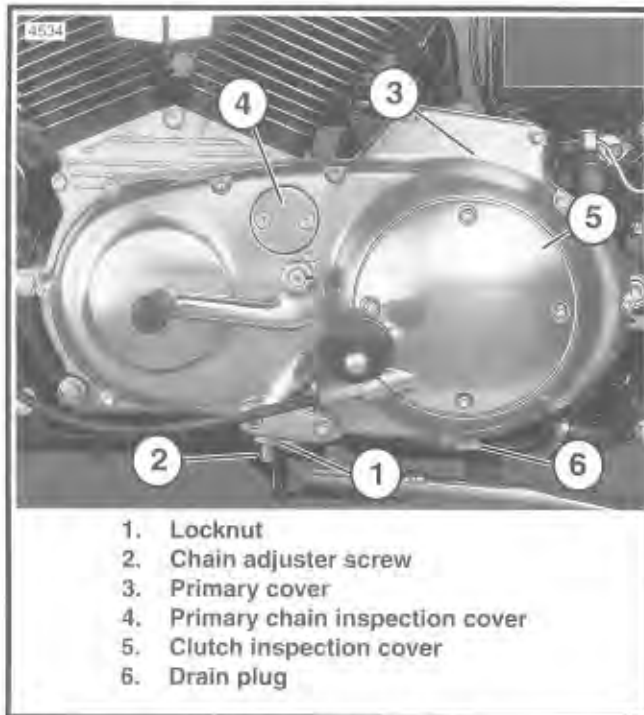
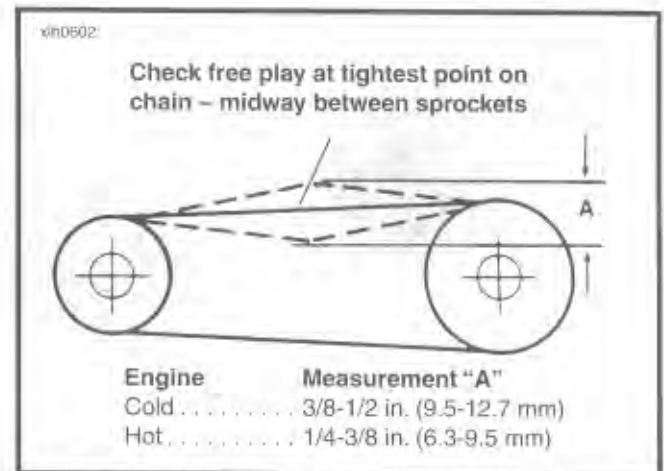
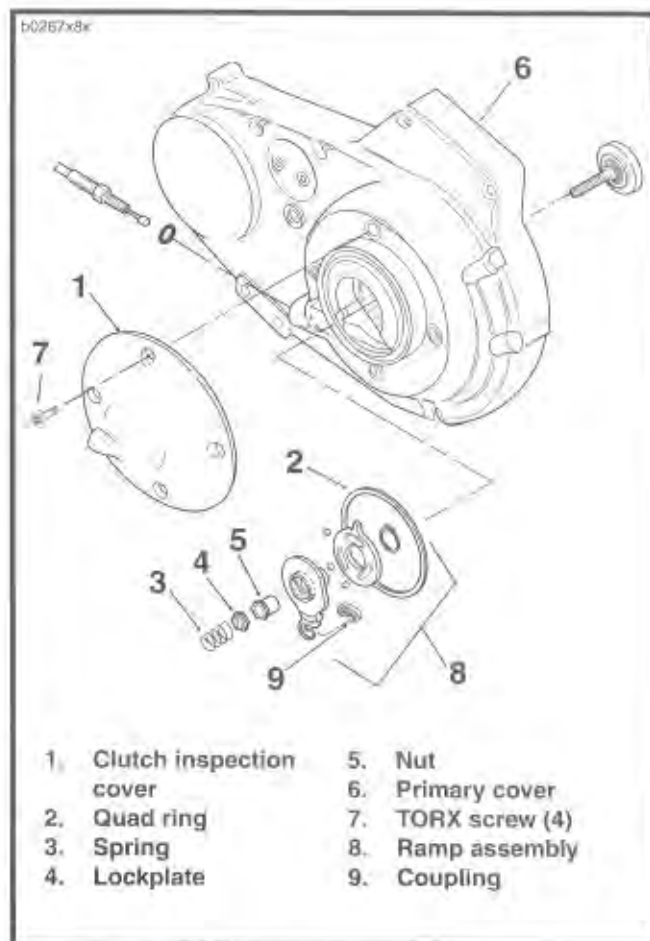

Figure 6-1. Primary Cover
Figure 6-2. Primary Chain Vertical Free Play
Figure 6-3. Clutch Inspection Cover
See Figure 6-1. Check the primary chain for correct tension by measuring its vertical free play through the primary chain inspection cover (4) opening located near the top of the primary cover (3).
See Figure 6-2. A properly adjusted primary chain should have the specified vertical free play in its upper strand. Be sure the measurement is taken midway between engine and clutch sprockets with sprockets rotated to the tightest chain position.
- Always measure vertical free play with the sprockets rotated to several different positions. The tightest measurement observed must be within the specifications shown in Figure 6-2.
See Figure 6-1. The primary chain can be adjusted without removing the primary cover (3). Proceed as follows:
1. Remove the two hex socket screws which secure primary chain inspection cover (4).
3. Loosen locknut (1). Turn chain adjuster screw (2) clockwise (inward) to reduce free play or counter-clockwise (outward) to increase free play. Vertical free play must fall within the limits specified in Figure 6-2.
If vertical free play cannot be set within the limits specified in Figure 6-2, then primary chain and/or chain adjuster are worn beyond adjustment limits. Replace parts as necessary.
4. See Figure 6-1. When tension is set correctly, tighten locknut (1) to 20-25 ft-lbs (27-34 Nm) torque.
5. Install primary chain inspection cover (4). Tighten hex socket screws to 40-60 in-lbs (4.5-6.8 Nm) torque.
1. See Figure 6-1. Place a drain pan under the engine. Remove drain plug (6) and drain lubricant from primary drive.
3. Loosen locknut (1). Turn chain adjuster screw (2) counter-clockwise to relax primary chain tension.
4. See Figure 6-3. Remove clutch inspection cover (1). Remove quad ring (2) from groove in primary cover.
5. Slide spring (3) with attached hex lockplate (4) from flats of adjusting screw.
6. See Figure 6-3. Thread nut on adjusting screw until slot of screw is accessible with a screwdriver. Fit nut hex into recess of outer ramp and turn adjusting screw counter-clockwise.